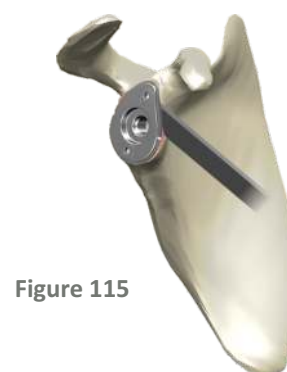

Figure 115
**WARNING!** If the *Base-plate* is integrated, in order to facilitate its removal, it is advisable to weaken the bone-prosthesis interface by striking it with a thin osteotome (Figure 115).